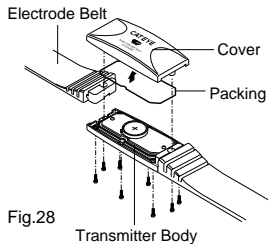

Fig.28
1. Loosen and remove the 8 screws at the back of the transmitter, and take the cover (Fig. 28).